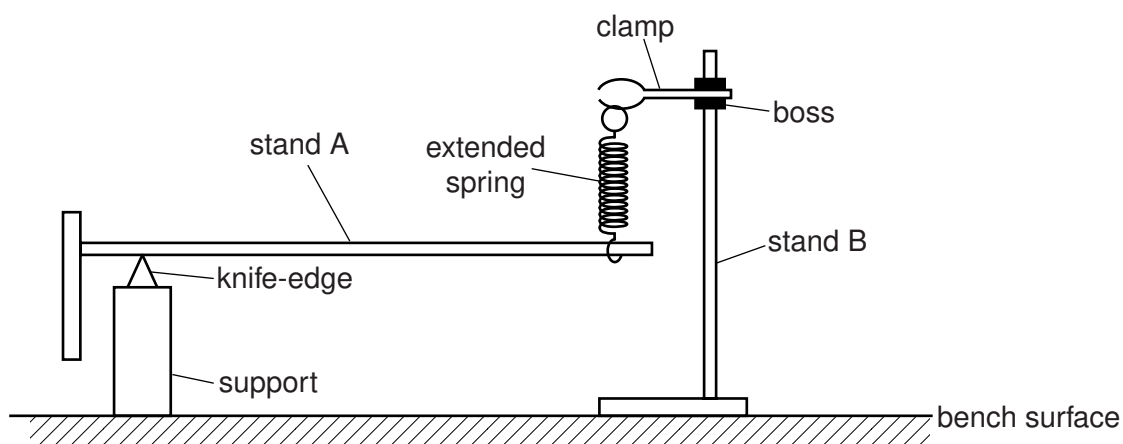

Fig. 1.2
3. In the second part of the experiment, the **candidate** will set up the apparatus as shown in Fig. 1.2. The loop of the spring must therefore easily pass over the rod but should not easily slip off it. If necessary, the Supervisor should supply a small piece of Blu-Tack to hold the loop in position. The purpose of the Blu-Tack should be explained to the candidates. The stand used to support the spring should be labelled B.